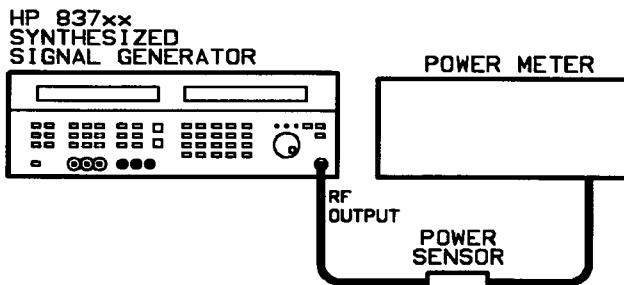

Figure 3-6. Low Level Accuracy Test Setup using Power Meter
5. Connect the equipment as shown in Figure 3-6.